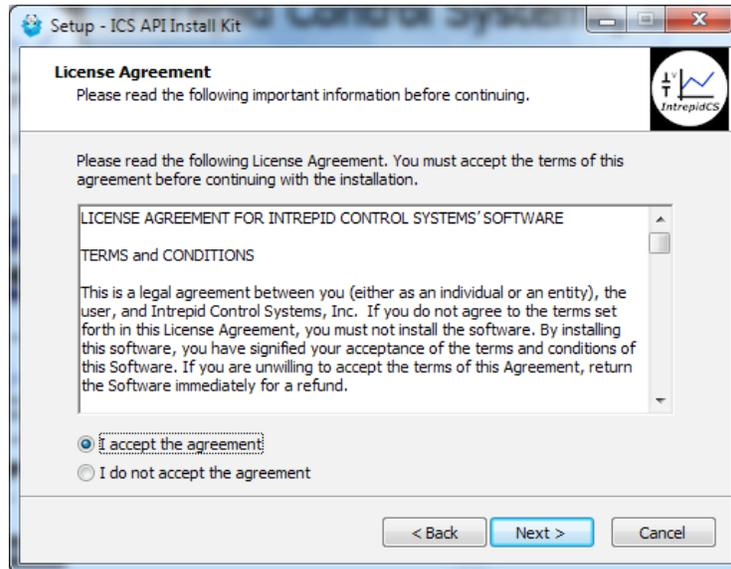

Figure 35: API and Driver File License Agreement.
5. **Review and Accept License Agreement:** Review the license agreement, and assuming its terms are acceptable, select *I accept the agreement*, then click  (Figure 35).